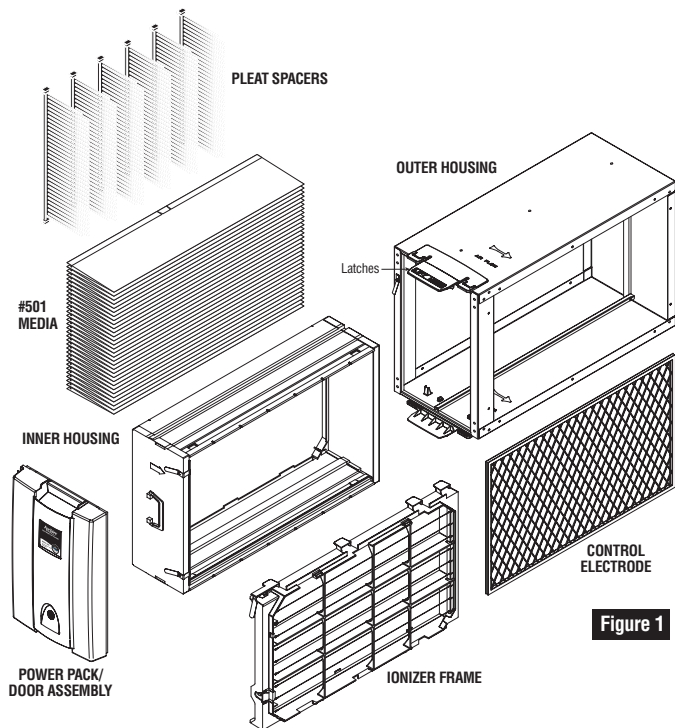

Figure 1
**Step 1:** Remove power pack/door assembly from air cleaner by lifting latch and pulling on recessed handle (see Figure 1 for air cleaner components).